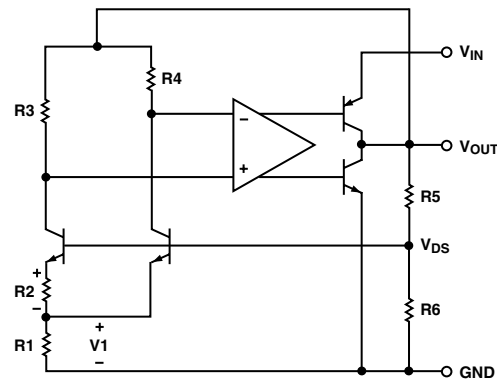

Figure 1. Simplified Schematic
The ADR370 uses the band-gap concept to produce a stable, low temperature coefficient voltage reference suitable for high accuracy data acquisition components and systems. This device makes use of underlying temperature characteristics of a silicon transistor's base-emitter voltage (V_{BE}) in the forward biased operating region. Under this condition, all such transistors have a -2 mV/°C temperature coefficient (TC) and a V_{BE} that, when extrapolated to absolute zero, 0 K, (with collector current proportional to absolute temperature) approximates the silicon band-gap voltage. By summing a voltage that has an equal and opposite temperature coefficient of 2 mV/°C with a V_{BE} of a forward biased transistor, an almost zero TC reference can be developed. The simplified circuit diagram in Figure 1 shows how a compensating voltage, V_1 , is achieved by driving two transistors at different current densities and amplifying the resultant V_{BE} difference (ΔV_{BE} , which has a positive TC). The sum (V_{BG}) of V_{BE} and V_1 is then buffered and amplified to produce a stable reference voltage of 2.048 V at the output.